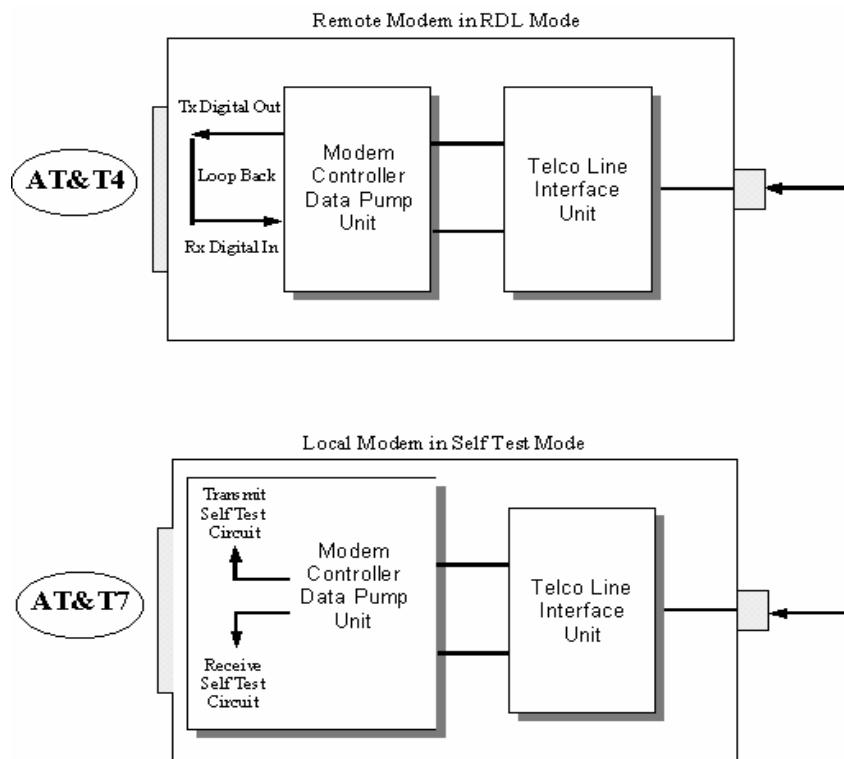

Figure 5 REMOTE DIGITAL LOOPBACK WITH LOCAL SELF TEST
**&T7 INITIATE RDL WITH LOCAL SELF TEST (See Figure 5)**